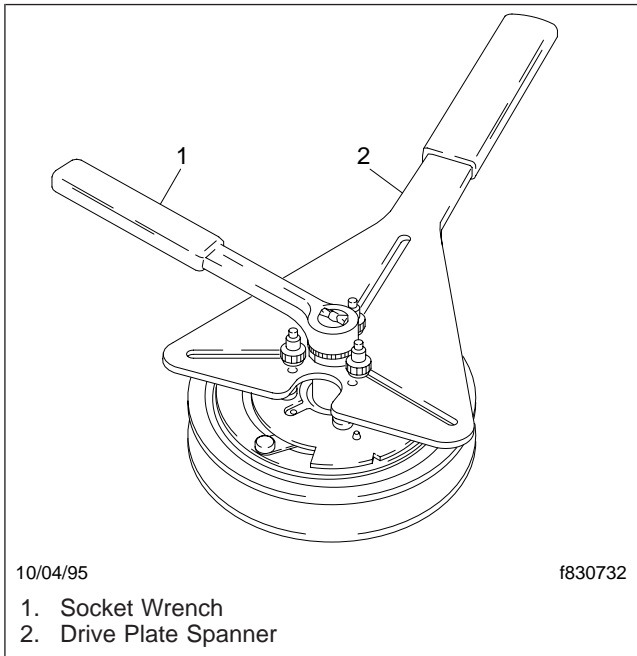

Fig. 2, Remove the Retaining Nut
3. Insert the pins of the drive plate spanner into the threaded holes of the drive plate. Hold the drive plate securely while removing the retaining nut. See Fig. 2.